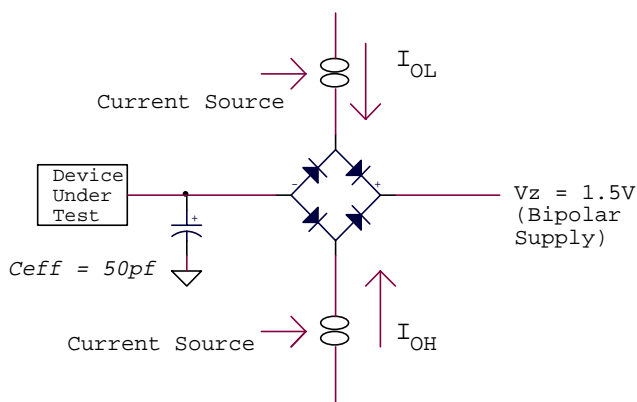

Figure 1
Output load.....See Figures 1
5. Test conditions as specified with output loading as shown in Fig. 1 unless otherwise noted.